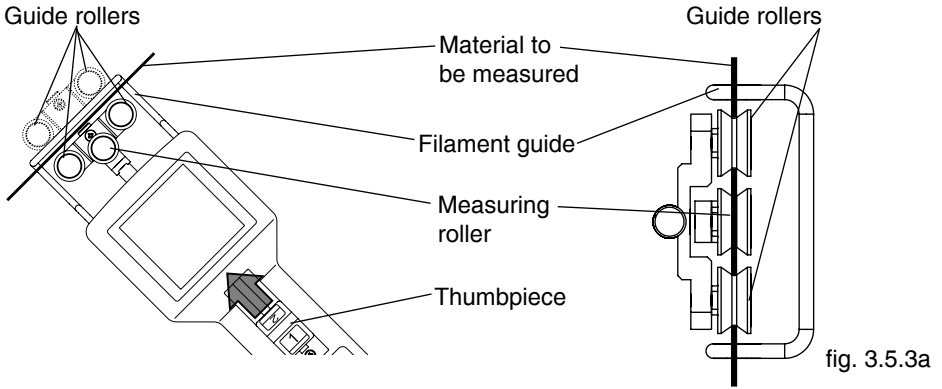

fig. 3.5.3a
- Push the thumbpiece in the direction of the arrow into its threading position 1 (Fig 3.5.3a) until the outer guide rollers extend beyond the filament guide.
- Position the material to be measured into the tension meter in such a way that it contacts the Filament guide and passes between the outer rollers and the middle measuring roller (see fig. 3.5.3a).